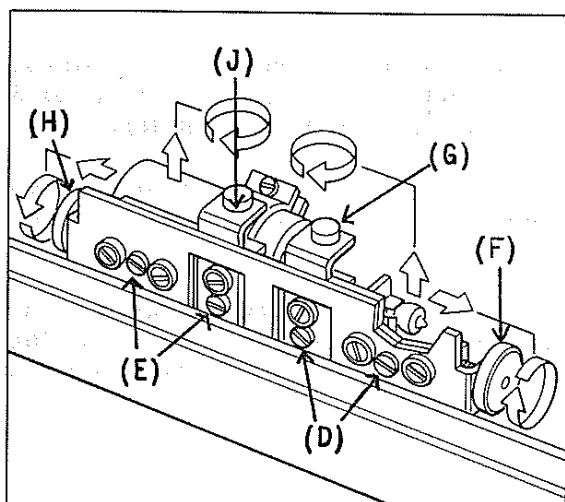

Fig.5.3 Lamp adjustment screws
- ii) **Coarse adjustment:** Switch on the lamp to be focussed and slacken the clamping screw (D) or (E) as appropriate (see Fig.5.3). Place a piece of white paper over the window into the monochromator and vary the vertical and horizontal adjusting screws (F) and (G) or (H) and (J) to centre the light beam on the window (Fig.5.3). Ensure the filter wheel is in the open position on the relevant light beam.